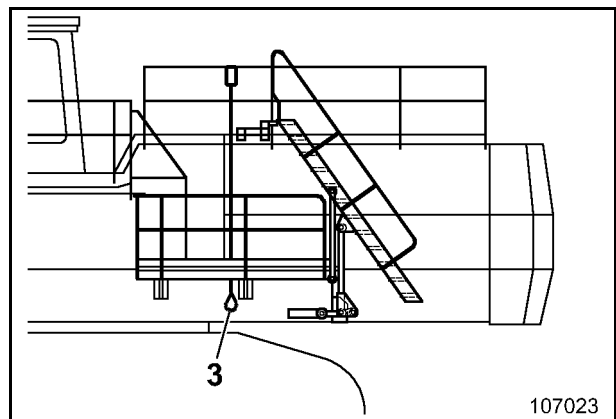

Fig. 2-16:
- Pull down rope (3, Fig. 2-16:).